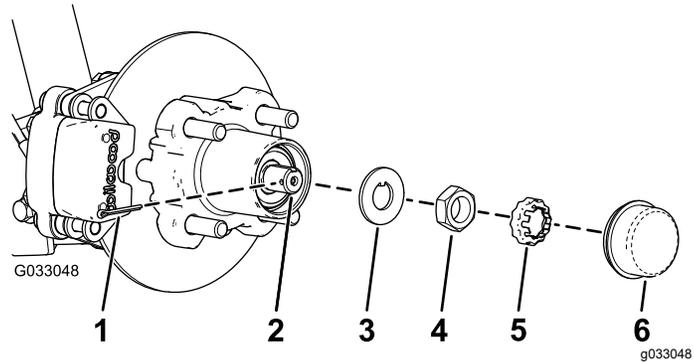
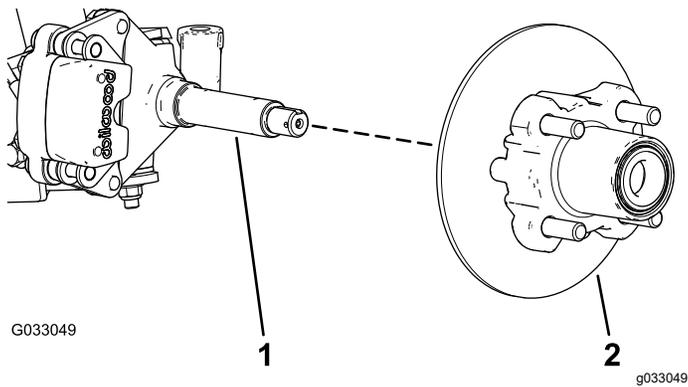

Figure 27
Figure 28
4. Remove the dust cap from the hub (Figure 27).
5. Remove the cotter pin and nut retainer from the spindle and spindle nut (Figure 27).
6. Remove the spindle nut from the spindle, and separate the hub and rotor assembly from the spindle (Figure 27 and Figure 28).